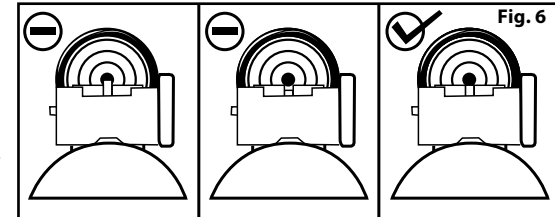

Fig. 6
1. For models with open sights, the airgun is aimed correctly when the front sight blade is positioned in the notch of the rear sight (Fig. 6).